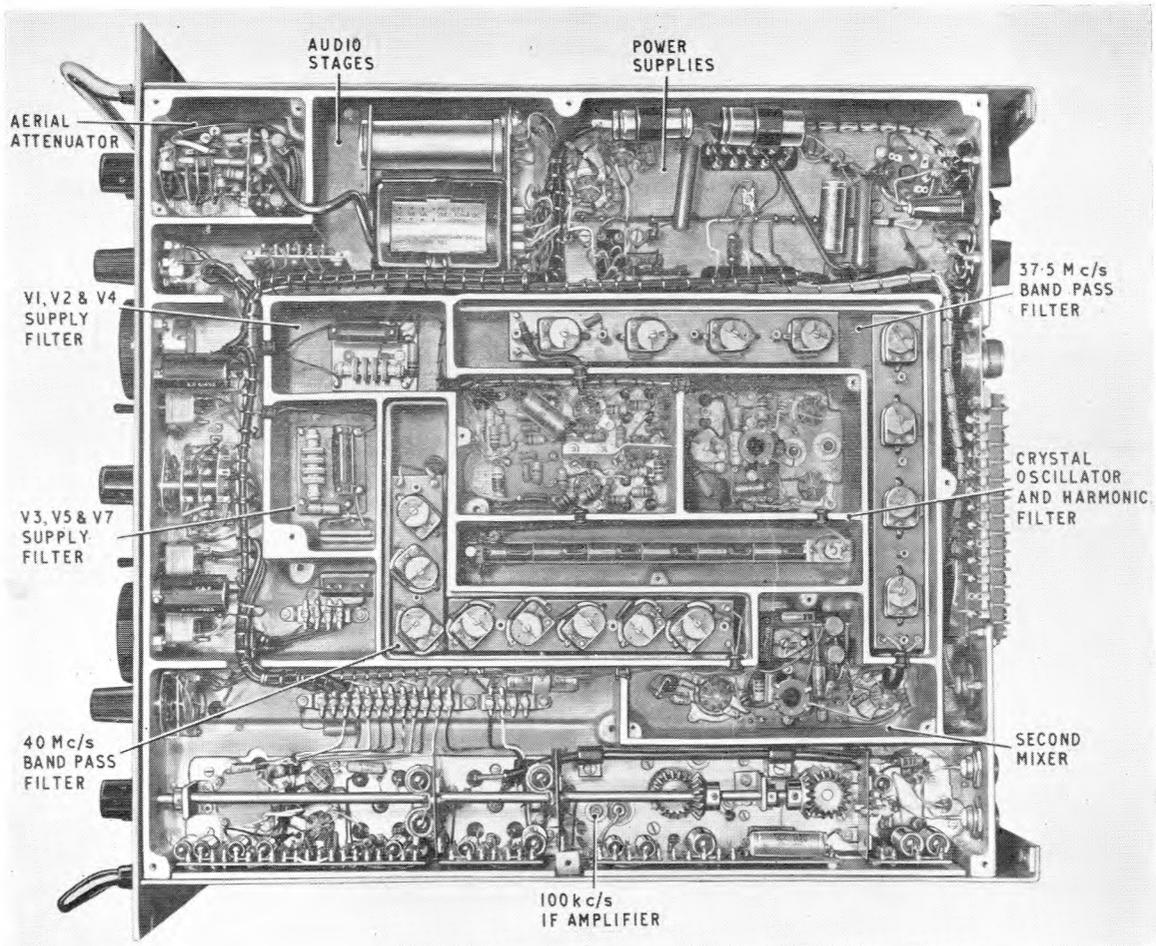

Fig. 5. Underside of receiver chassis
31. The output from a 1 Mc/s crystal oscillator is connected to a harmonic generator. The harmonics derived from this stage are passed through a 32 Mc/s low-pass filter and mixed with the output from the first v.f.o. in the fourth mixer. This mixer provides an output at 37.5 Mc/s which is amplified before passing through a band-pass filter tuned to 37.5 Mc/s with a bandwidth of \pm 150 kc/s (fig. 5).